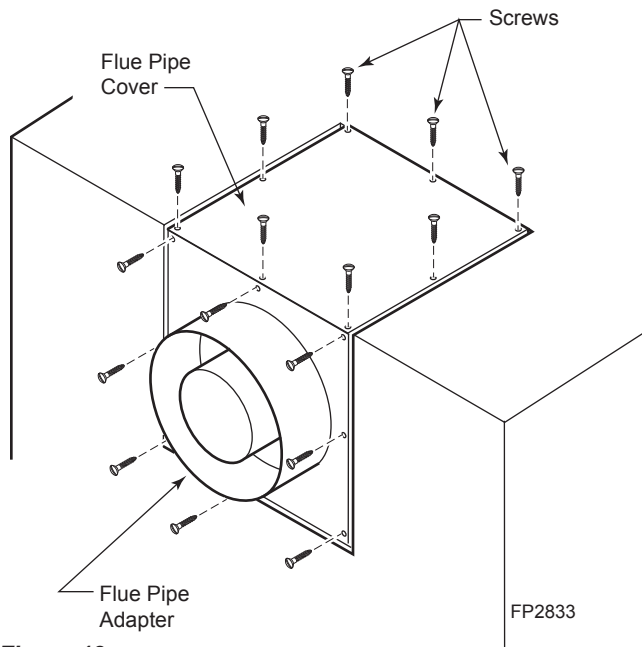

Figure 12 -
1. Remove the eight (8) screws securing the flue pipe adapter to the fireplace body. *Figure 12*
3. Remove the eight (8) screws securing the flue pipe cover to the top of the intake box and remove the cover and gasket. *Figure 12*